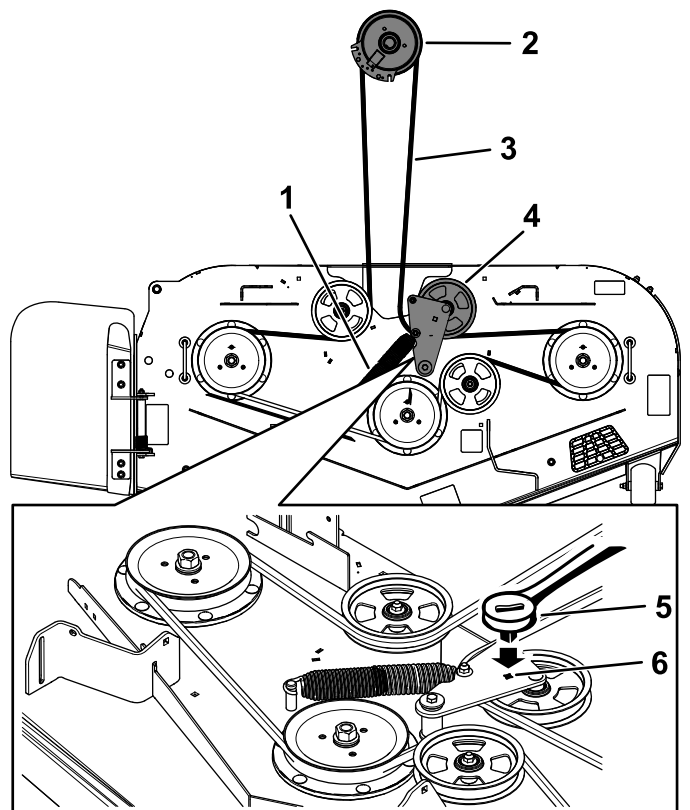

Figure 66
10. Install the belt guide on the idler arm (Figure 66).
11. Using the 3/8-inch ratchet in the square hole, install the idler spring (Figure 66).
5. Use a 3/8-inch ratchet in the square hole in the idler arm to remove tension on the idler spring (Figure 66).
7. Remove the belt guide on the spring-loaded idler arm (Figure 66).
9. Install the new belt around the mower pulleys and the clutch pulley under the engine (Figure 66).